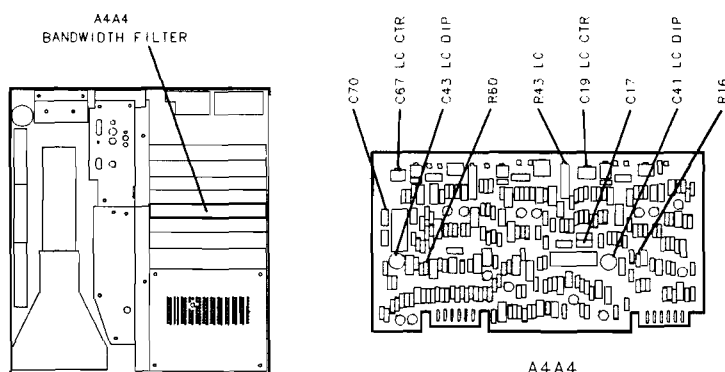

Figure 3-41.
9. Adjust A4A4C67 LC CTR and A4A4C19 LC CTR for maximum MARKER level as indicated by CRT annotation. See Figure 3-41 for location of adjustments. If unable to adjust LC CTR adjustments for satisfactory signal amplitude, increase or decrease value of A4A4C17 and A4A4C70. Refer to Table 3-3 for range of values.
12. Adjust A4A4R43 LC to align markers on display. **MARKER** Δ level should indicate 1.00 X. See Figure 3-41 for location of adjustment.
57. Adjust A4A4C41 LC DIP for minimum amplitude of signal peak. See Figure 3-41 for location of adjustment. Key in MARKER **PEAK SEARCH**, MARKER **Δ**, and then press MARKER **PEAK SEARCH** and re-adjust LC DIP to offset the signal peak approximately -17 kHz (to the left). This is done to compensate for operating the A4A4 Bandwidth Filter on extender boards. If unable to achieve a “dip” in signal amplitude, increase or decrease value of A4A4R16. Refer to Table 3-3 for range of values.
59. Adjust A4A4C43 LC DIP for minimum amplitude of signal peak. See Figure 3-41 for location of adjustment. Key in MARKER **PEAK SEARCH** MARKER **Δ**, and then press MARKER **PEAK SEARCH** and re-adjust LC DIP to offset the signal peak approximately -17 kHz (to the left). If unable to achieve a “dip” in signal amplitude, increase or decrease value of A4A4R60. Refer to Table 3-3 for range of values.